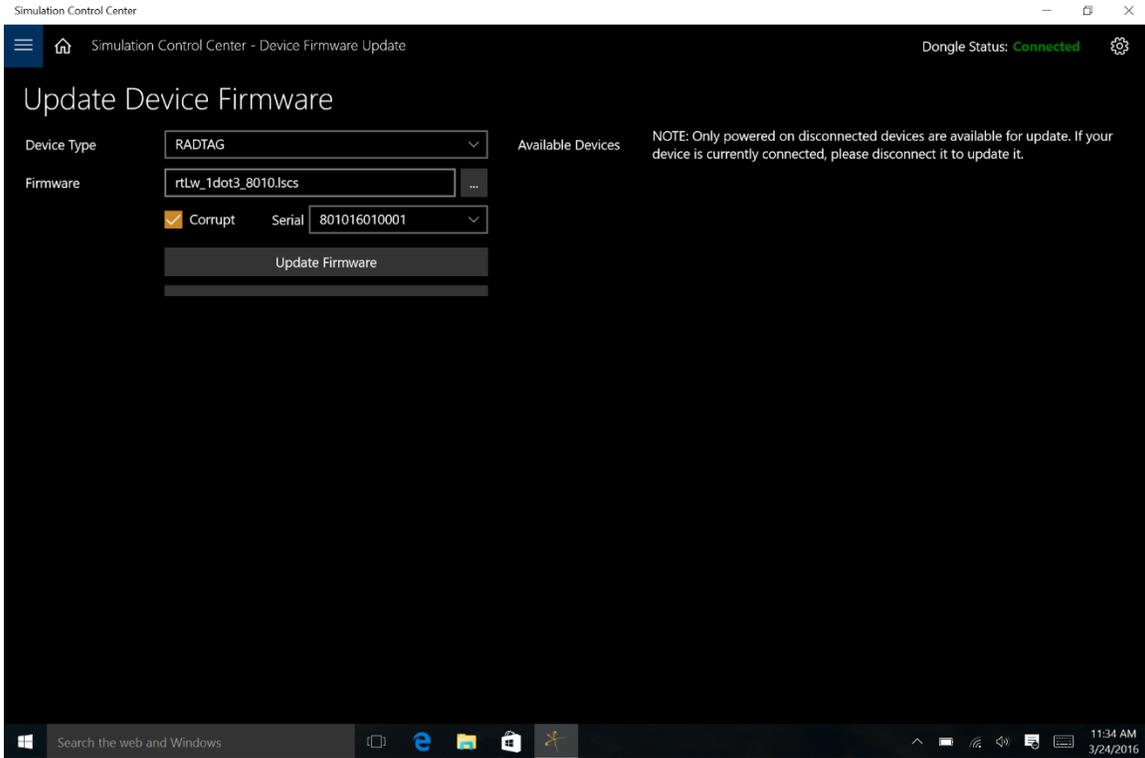

FIGURE 10 CORRUPTED FIRMWARE UPDATE SCREEN
6. Select the corrupted Rad Tag Serial number from the drop-down box (see Figure 10)